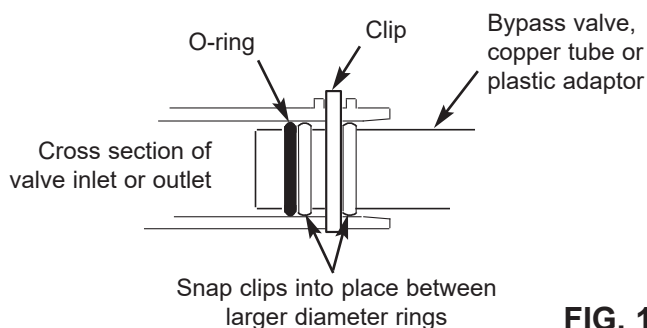

FIG. 11
- Snap the two large plastic clips in place on the inlet and outlet ports, from the top, down (See Figure 11). Be sure they snap into place. Pull on the bypass valve, copper tube or plastic adaptor, to make sure they are held securely in place.